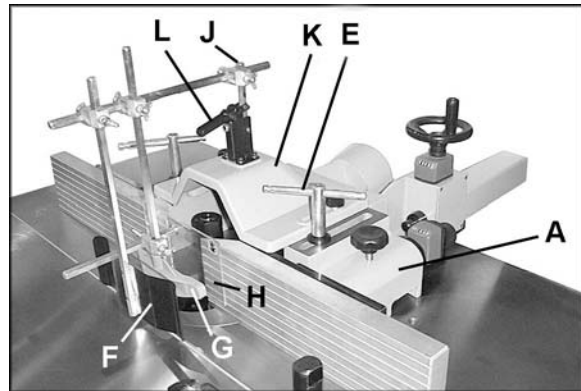

Figure 7
1. Place the fence body (A, Figure 7) on the table. Mount the two fence locking handles (E, Figure 7) with washers, and secure fence to table using one of the two sets of holes on the table.
4. Mount the cover plate (K, Figure 7) using the two locking knobs and flat washers.
The guard assembly can be mounted in various configurations, depending upon the type of work being done. Figure 7 shows one such configuration.
1. Mount the spring guard (F, Figure 7), hold-down (G, Figure 7) and clear plastic guard (H, Figure 7) to mounting rod (J, Figure 7) located on top of fence cover (K, Figure 7), using rod and clamps. The latch on the mounting rod (L, Figure 7) can be pushed down to help secure the guards in place.
2. The spring guard (F, Figure 7), hold-down (G, Figure 7) and clear plastic guard (H, Figure 7) can be flipped up out of the way when not in use or when making adjustments. Simply pull up the latch (L, Figure 7) and flip the entire assembly to the back.